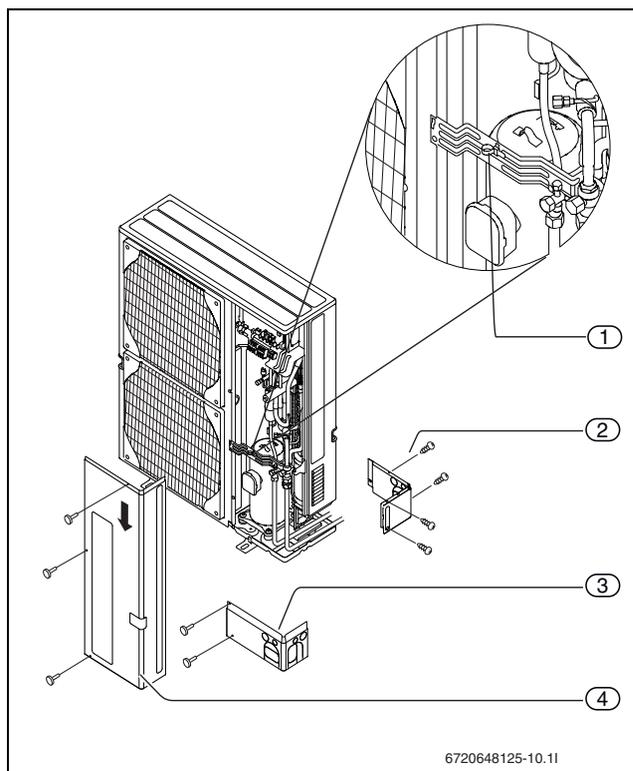

Fig. 31 Connecting the outdoor unit (example shows ODU 12)
- ▶ Remove the service flap (→ [4], fig 31).
- ▶ Remove the pipe protection (→ [3], fig 31).
- ▶ Route the connection cables through the strain relief in the side of the outdoor unit (→ [1], fig 31).
- ▶ Reinstall the service flap (→ [4], fig 31).